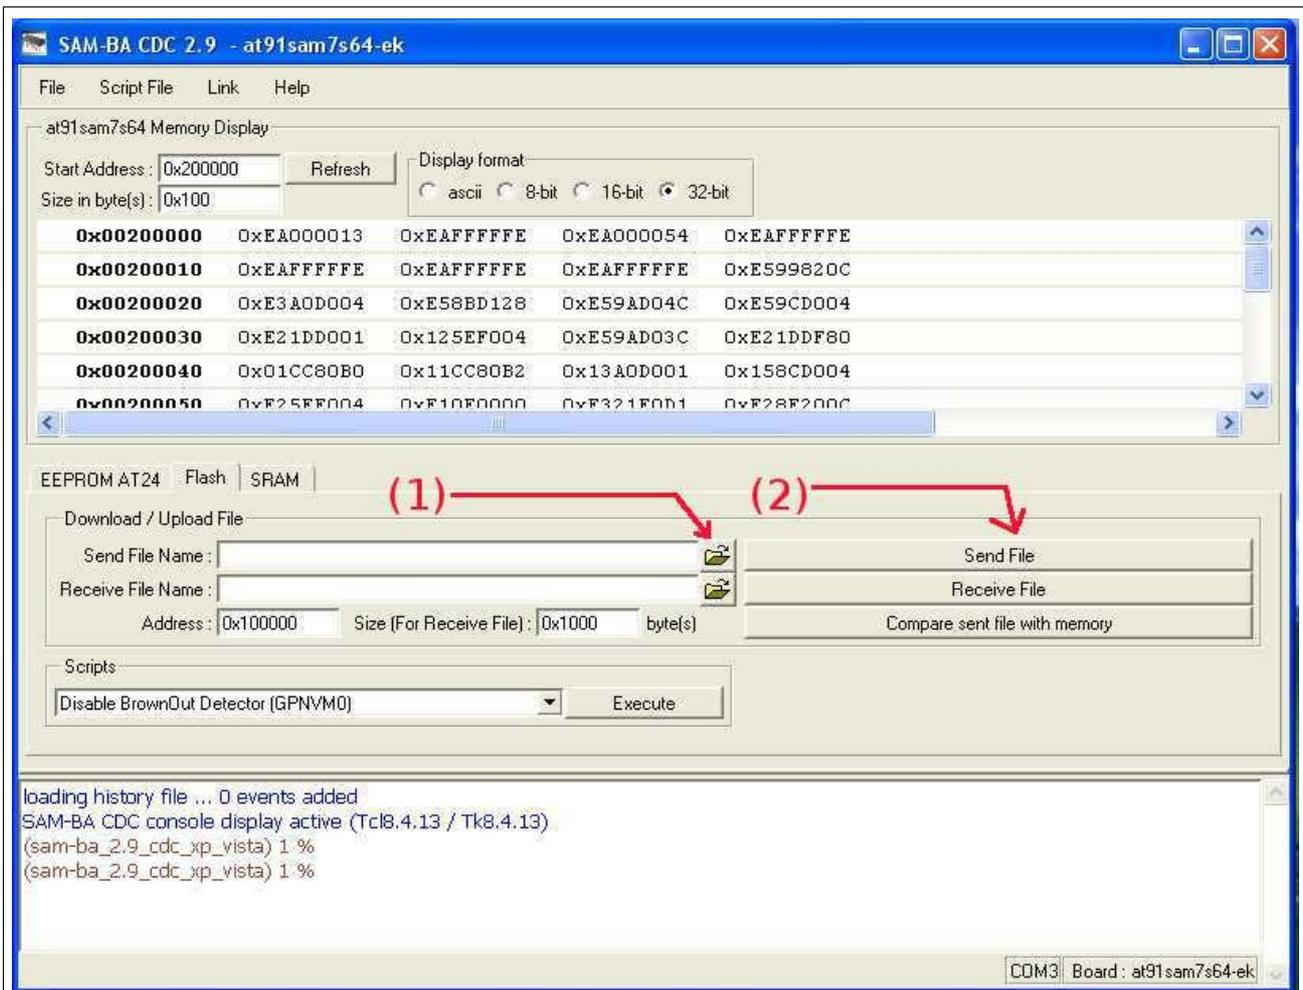

Figure 22: the boot application.
11. Now you must select the board “*at91sam7s64-ek*” in the “*Select your board:*” menu, as shown in figure 21. Failing to do so will cause the *Telemetry Box* to stop working, with no warning, seemingly dead after the programming procedure. Never mind – you will just have to redo the whole process with the proper board selection. Once this is done, click on the “*Connect*” button to launch the boot application. This one appears as shown in figure 22.
Now click on the button (1) shown in figure 22, and select the file to download in the *Telemetry Box* device. Then click on the button (2) shown in figure 22 to launch the downloading. During the downloading phase the application generates two questions. Please answer “yes” to the first question and “no” to the second one. At the end of the downloading, please click on “Quit” option in the “File” menu to close the boot application. Now the *Telemetry Box* is updated and it's possible to disconnect it from the PC.